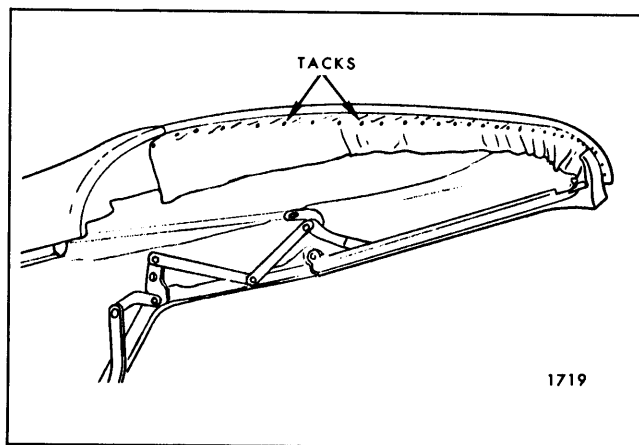

Fig. 13-25—Installation Of Top Material To Front Roof Rail
47. Unlock top from windshield header and apply nitrile cement or neoprene-type weatherstrip adhesive to tacking area of front roof rail and corresponding surface of top material. Pull top trim material slightly forward so that pencil marks are on underside of front edge of front roof rail. Fasten top trim to cemented area and stay tack trim to rail (Fig. 13-25).